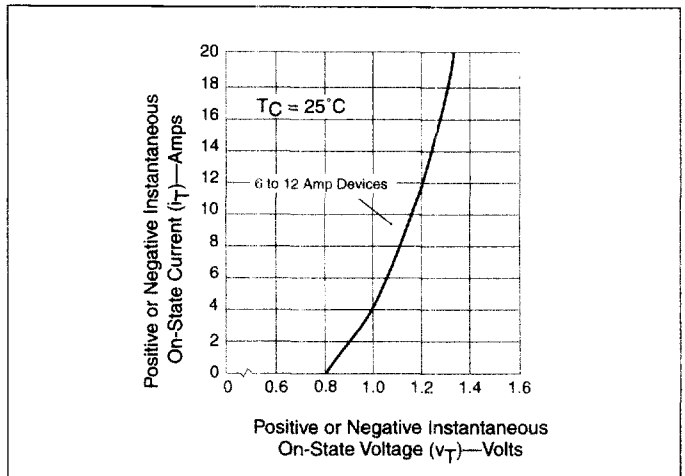

Figure 4.5 On-State Current vs On-State Voltage (Typical) (6-12 Amp Devices)
- (5) See Figures 4.5 and 4.6 for  $i_T$  and  $v_T$ .